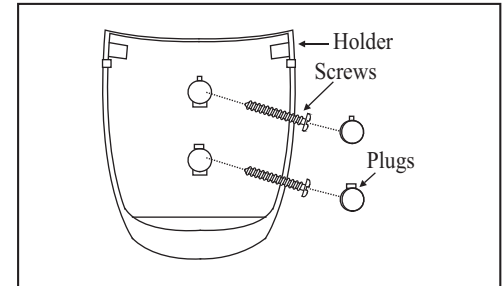

Figure 29
1. Remove the two plugs from the holder. Note that the plugs have unique tabs that allows them to fit only in one hole. (Fig. 29)